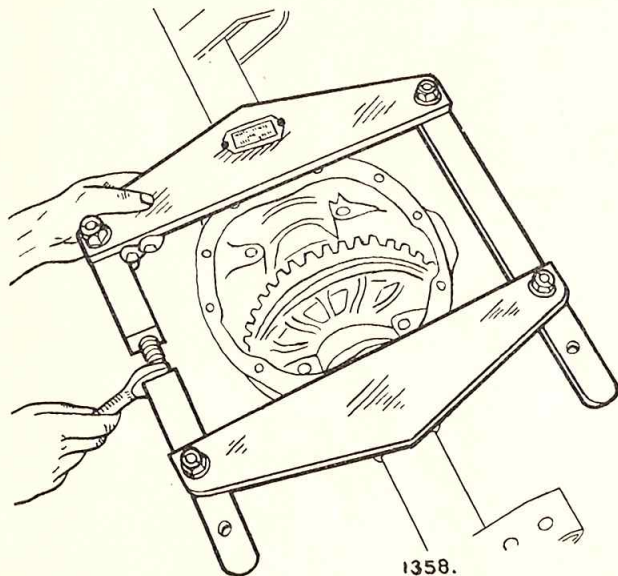

Fig. 6. Stretching the gear carrier prior to removing the differential.
- (1) Withdraw the four bolts securing the two differential bearing caps and remove the two caps.
- (2) Before attempting to remove the differential assembly, fit the stretching fixture, Tool No. SL.1. Fig. 6 (see “ Special Tools ” on page H.5).